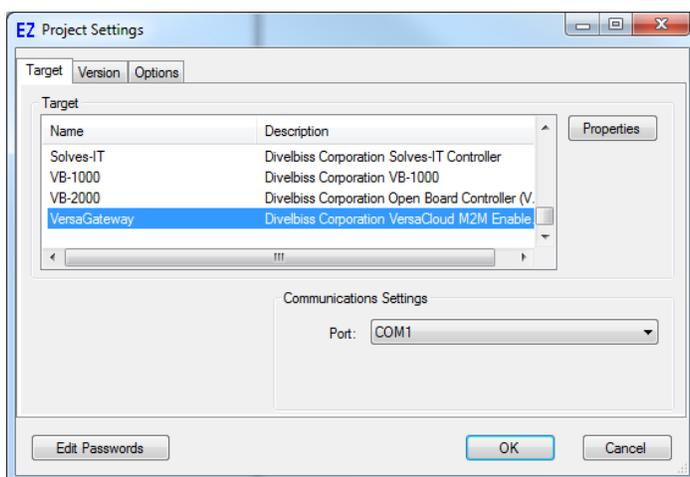

Figure 1-1 - Project Settings Window
1. In P-Series EZ LADDER Toolkit, from the File Menu at the top, click **PROJECT** then **SETTINGS**. This will open the **Project Settings** Window. Select **VersaGateway** as the target from the choices. Refer to Figure 1-1. Verify the correct computer COM Port for communication to the VersaGateway target is selected.